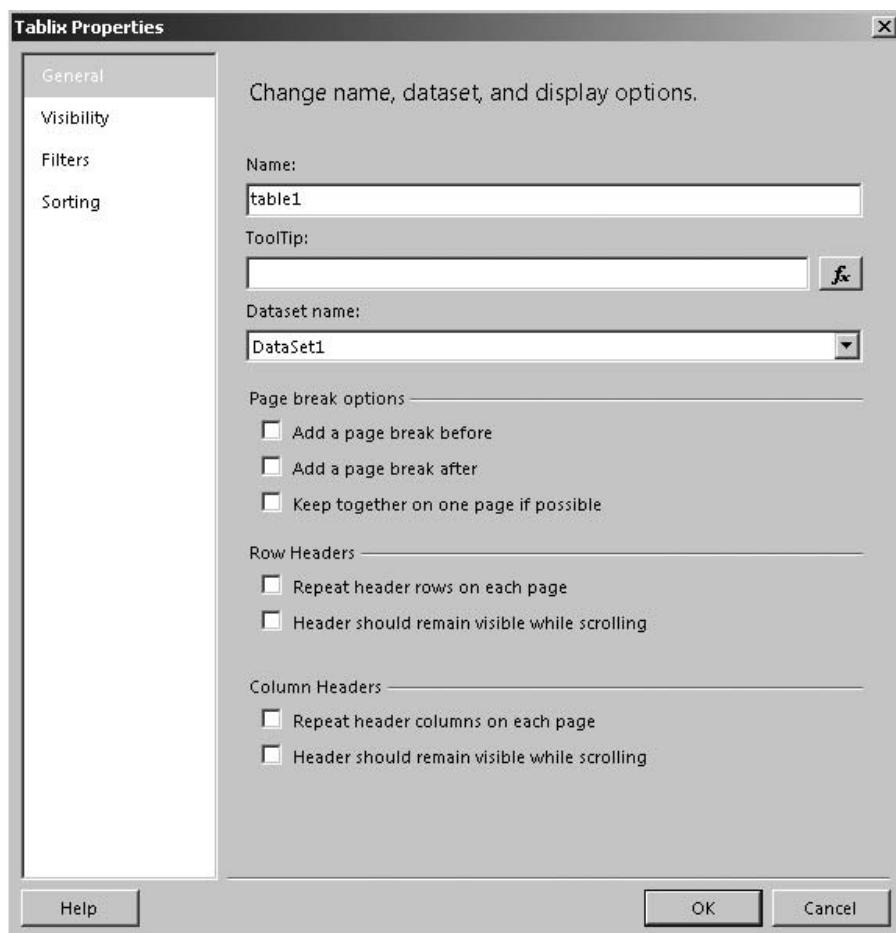

Figure 16-16 The General page of the Tablix Properties dialog box
50. Click the gray square in the upper-left corner of the tablix. This is how we select the tablix itself. Click in any of the cells to unselect the tablix, and then right-click that same gray square. The context menu that appears is the context menu for the tablix itself. Select Tablix Properties from the context menu. The Tablix Properties dialog box appears. The General page, shown in Figure 16-16, controls several properties of the tablix, including whether the header and footer rows should be displayed and whether the report should begin a new page either before or after the tablix.